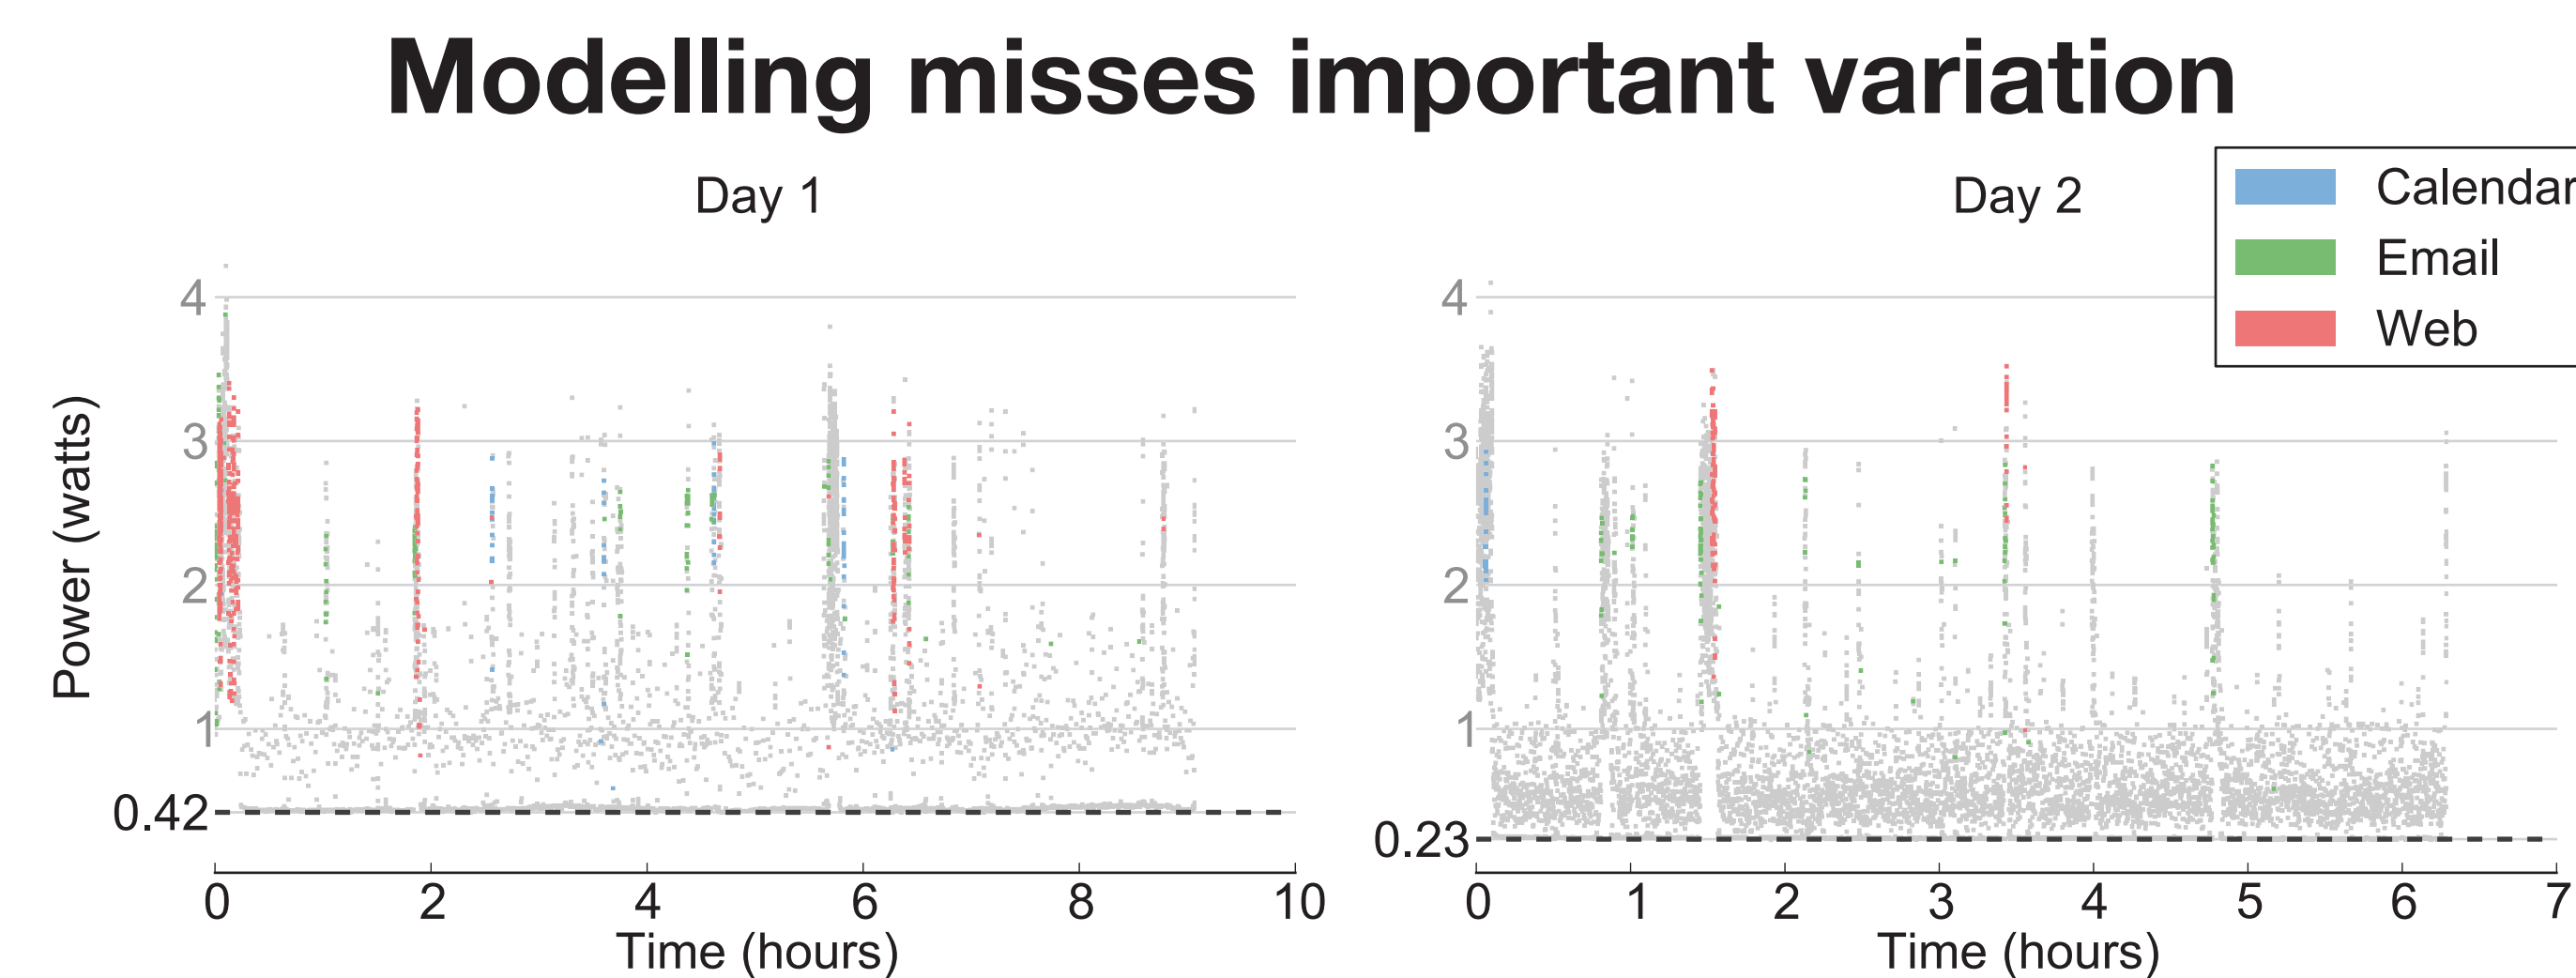

Figure 3 Modelling misses a base power variation, worth 30% of battery life over 8 hours.
3. Cannot detect the unexplained power variation in Figure 3